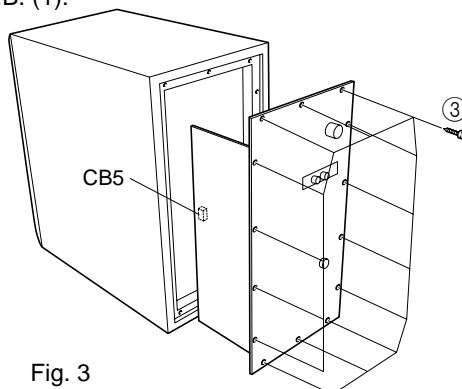

Fig. 3
Remove 14 screws (③) in Fig. 3, and remove the rear panel. At this time, disconnect the connector CB5 of MAIN P.C.B. (1).
③のネジ14本を外し、リアパネルを外します。(Fig. 3)